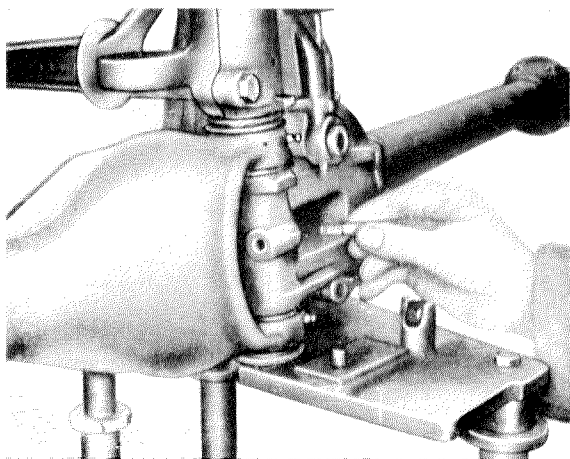

Fig. 35 — 4/17
54. Drive the splined spacer sleeve (4) toward the rear onto the connecting pin and into the cover (3) and put on the locking plate. Screw on the hexagon screw (1) and tighten up with a tightening torque of 10—12 mkg and then slacken it again (see Fig. 35 — 4/14 a).